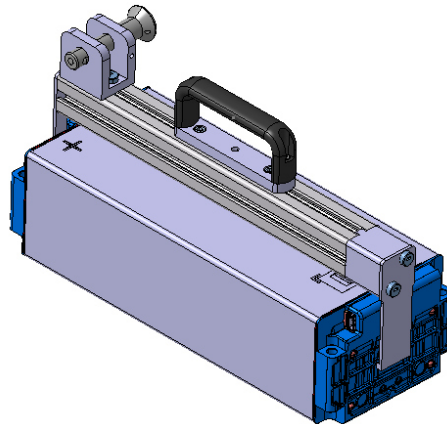

Figure 4- Lifting the module
- Either: Lift out the battery module by the handle. (see figure 4)